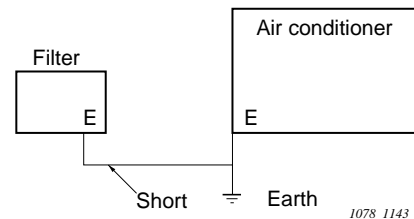

Fig. 2-4
5. When using a noise filter or noise cut transformer, firmly connect the earth wire of filter, etc. with the main unit of air conditioner. Of course, install an earth for the air conditioner. (Fig. 2-4)